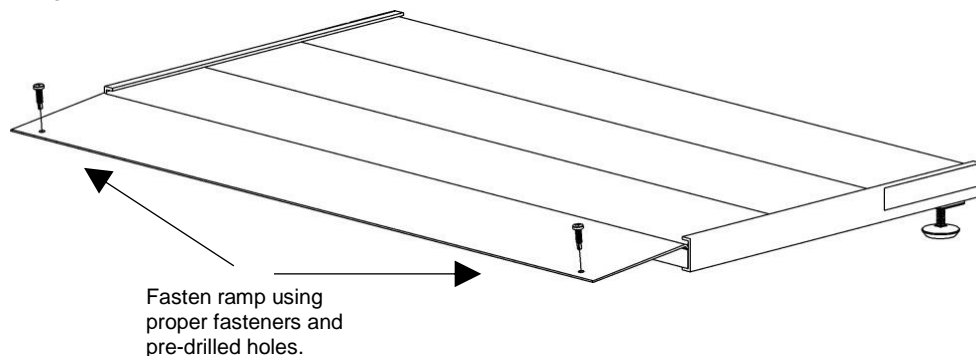

FIG. 2
- 1.1 Fasten Transitions Angled Entry Ramp by installing one 1/4" x 1" self-drilling stainless steel screw (supplied) through each hole as shown (FIG. 2).